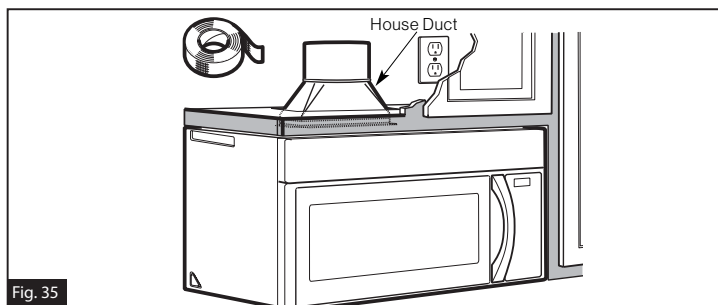

Fig. 35
2. Seal exhaust duct joints using duct tape. (Fig. 35)